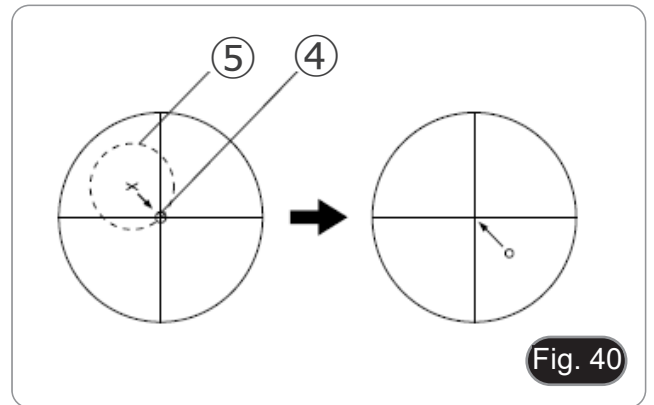

Fig. 40
3. Move a small recognizable detail in the field of view ④ using the X-Y movement knobs on the mechanical stage and place it at the centre of the eyepiece crosshair. (Fig. 40)
5. By turning the stage, the detail in focus will draw a circle ⑤. (Fig. 40)